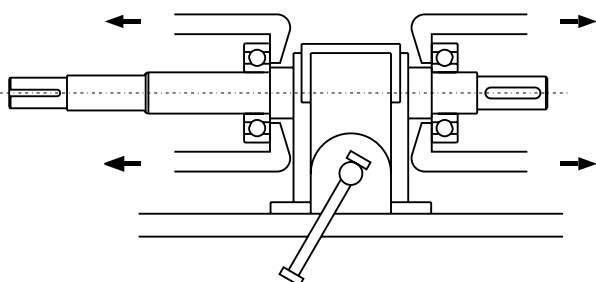

Fig. no.12c : Removal of the bearings from pump shaft.
7. Fasten the shaft with its bearings to the bench vice and detach bearings from shaft with an extractor or by means of a hammer and a punch. Fig no. 12c.